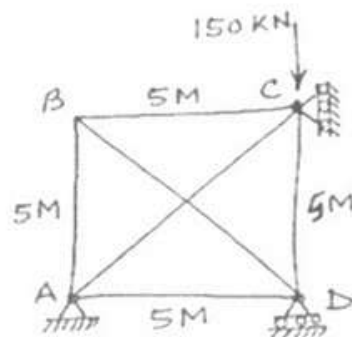

Fig.4
4. Determine the member forces in the plane truss shown in Fig.4 by flexibility method. Take member AC as redundant and  $AE$  as constant.